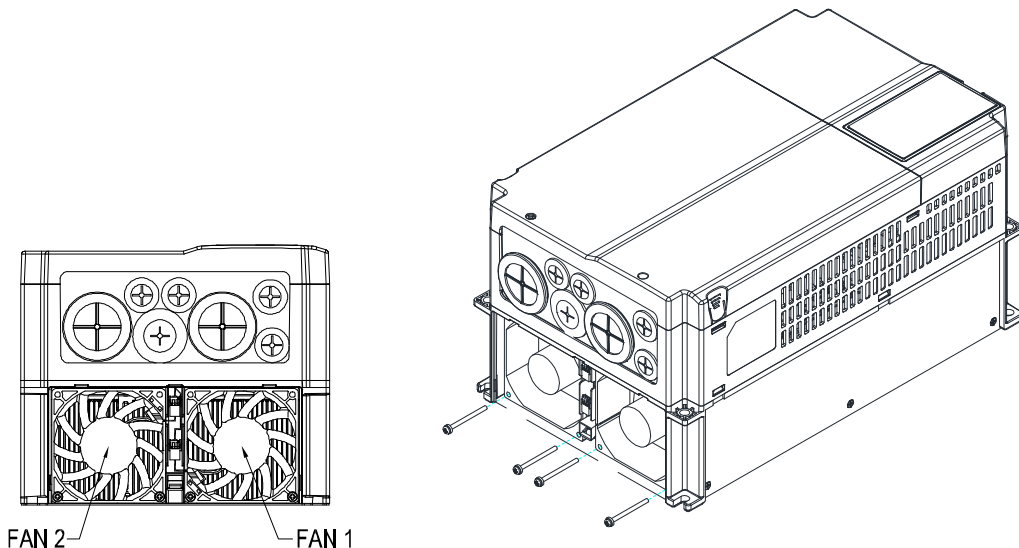

Figure 2
2. (As shown in Figure 2), remove the power connector, loosen the screw and remove the fan kit. When installing the fan kit, have the label on the fan kit facing inside of the motor drive. Screw's torque force: 10~12kgf-cm (8.7~10.4(lb-in))